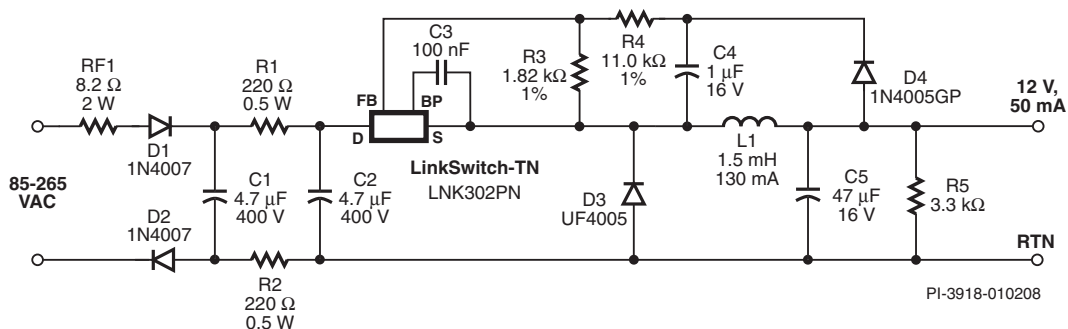

Figure 1. LinkSwitch-TN 0.6 W, 12 V, Universal Input Power Supply Using a Non-Isolated Buck Topology.
Using the buck topology, the circuit shown in Figure 1 generates a non-isolated 12 V, 50 mA output. Typical uses include utility meter and industrial and motor control applications.
- The circuit shown in Figure 1 has a total output voltage tolerance of  $\pm 10\%$  ( $-20\text{ }^{\circ}\text{C}$  to  $+85\text{ }^{\circ}\text{C}$  ambient temperature).